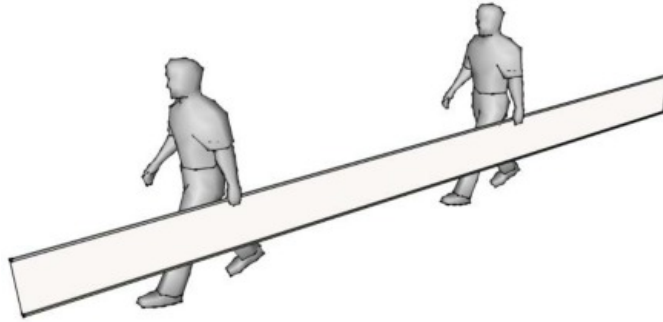

Figure 3: Carrying panels. Maintain maximum distance of 10-12 feet between holders
- Individual panels should be carried on edge by hand and supported evenly with a maximum spacing of 10 to 12 feet (*Figure 3*).